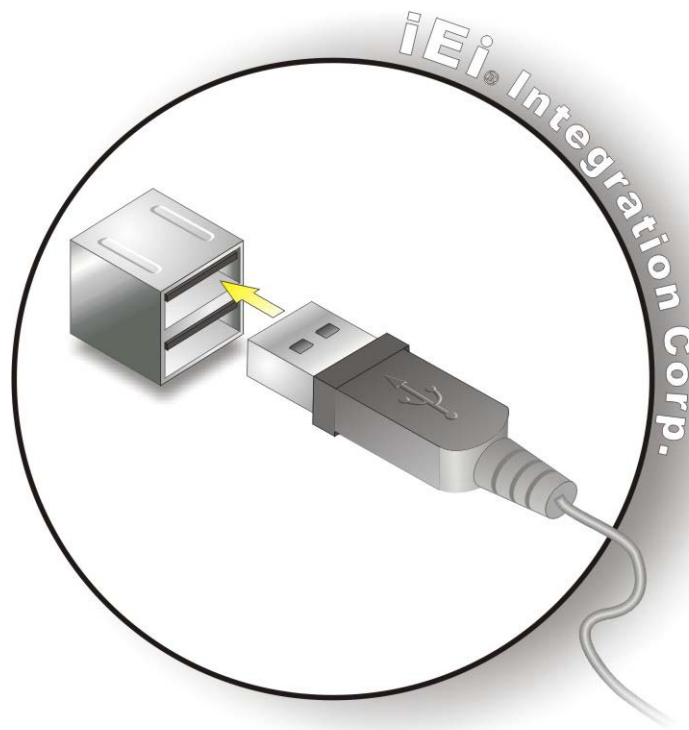

Figure 3-29: USB Device Connection
- Step 2: Align the connectors.** Align the USB device connector with one of the connectors. See **Figure 3-29**.